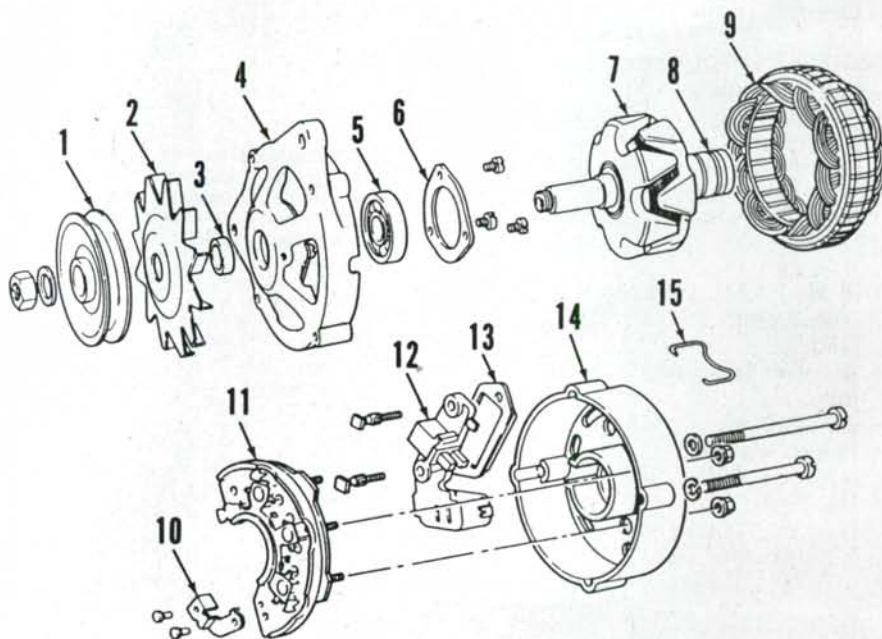

Fig. 157—Exploded view of Perkins alternator used on some models.
**143. OVERHAUL.** Prior to disassembly, scribe matching marks across end frame (4—Fig. 157) and rear housing (14) to ensure correct alignment for reassembly. Remove four through-bolts, then separate end frame with rotor from rear housing and stator. Hold rotor in a vise, then remove pulley nut, pulley (1), fan (2) and spacer (3) from rotor shaft. Separate rotor from end frame. Remove front bearing (5) from end frame and rear bearing (8) from rotor if necessary.